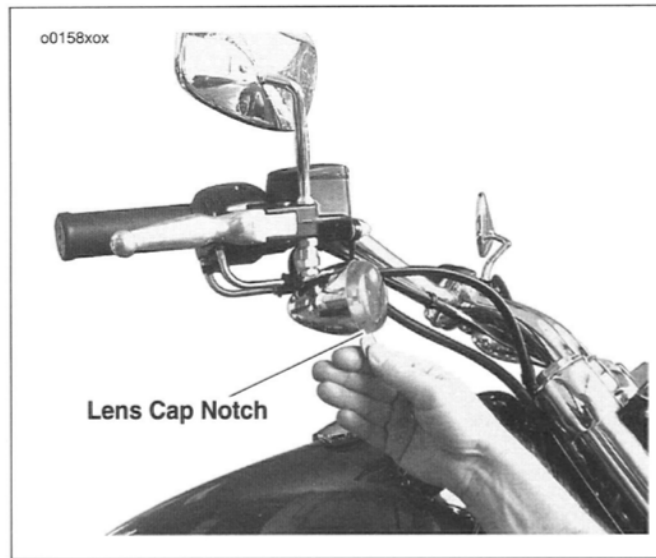

Figure 57. Turn Signal Housing
1. See Figure 57. To access the front or rear turn signal bulbs for replacement, locate a notch on the yellow turn signal lens cap.